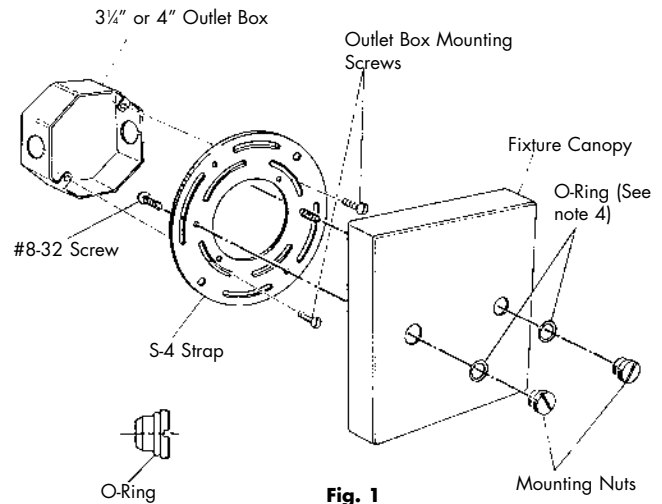

Fig. 1
1. Insert supplied #8-32 x 1/2" screws into supplied S-4 strap through tapped holes located 2-3/4" apart in orientation shown in Fig. 1. (Holes in fixture canopy must line up with these screws.)